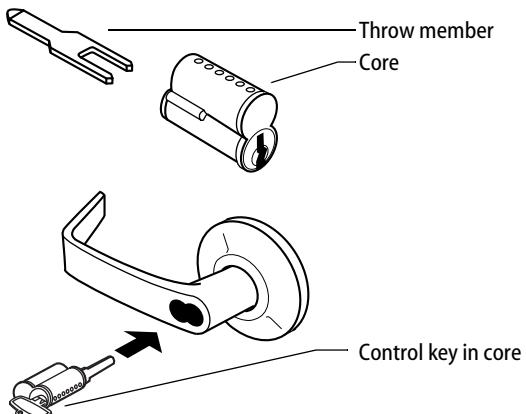

Figure 8 — Installing the core
- 2 Insert the throw member into the core (see Figure 8 — top).
- 3 Put the control key into the core and turn the key 15 degrees clockwise.
- 4 Put the core and throw member into the lever with the control key (see Figure 8—bottom).
- 5 Turn the key 15 degrees counterclockwise and remove the key.